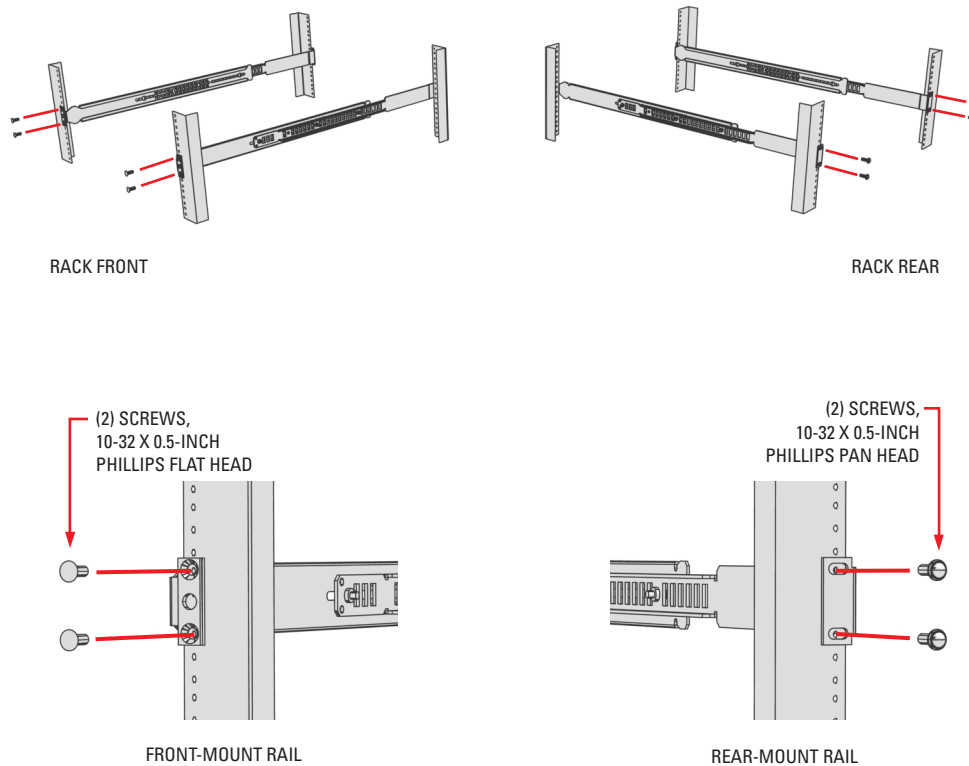

Figure 9. Attaching Support Rails
5. Attach one support rail assembly to the equipment rack in the desired location (refer to Figure 9):